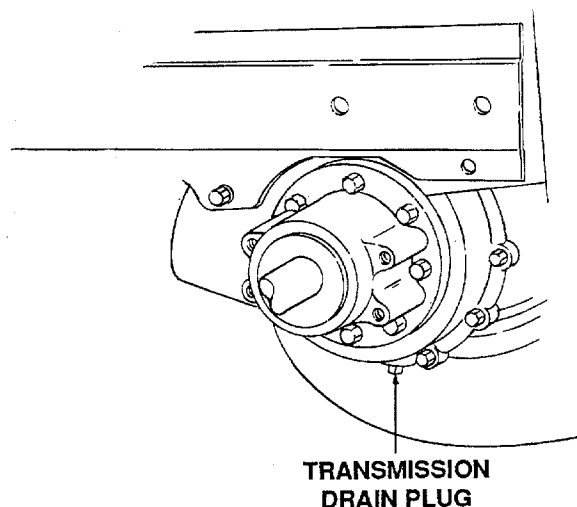

Figure 22
2. Clean the area around the transmission drain plug to prevent debris from entering the transmission case. Remove the drain plug and allow the transmission oil to drain into a clean container having a capacity of more than 7 quarts. Reinstall the drain plug (Refer to Figure 22).